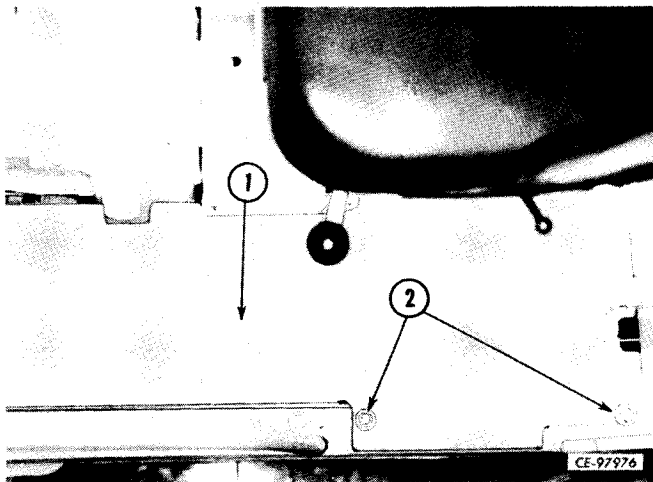

Figure 13-8
To gain access to brake caliper, floor panels must be removed. Remove cap screws (2, Fig. 13-8) and floor panel (1).
Position floor panels (1, Fig. 13-8), and secure with cap screws (2).